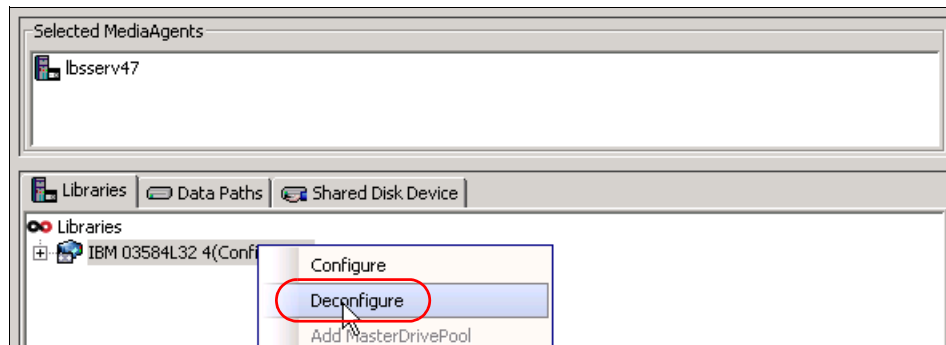

Figure 19-4 Deconfigure the existing tape library
4. In the General tab, under Libraries, right-click the robot, click **Deconfigure**, and confirm the operation. You might be requested to confirm twice (Figure 19-4).